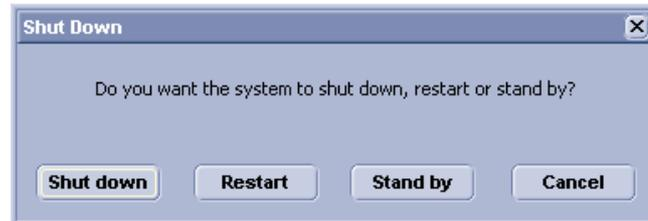

Figure 3-90 Shutdown, Restart or Standby
- 2.) Press the **On/Off** button (refer to: Figure 3-87). A dialog window (see: Figure 3-90, above) appears.